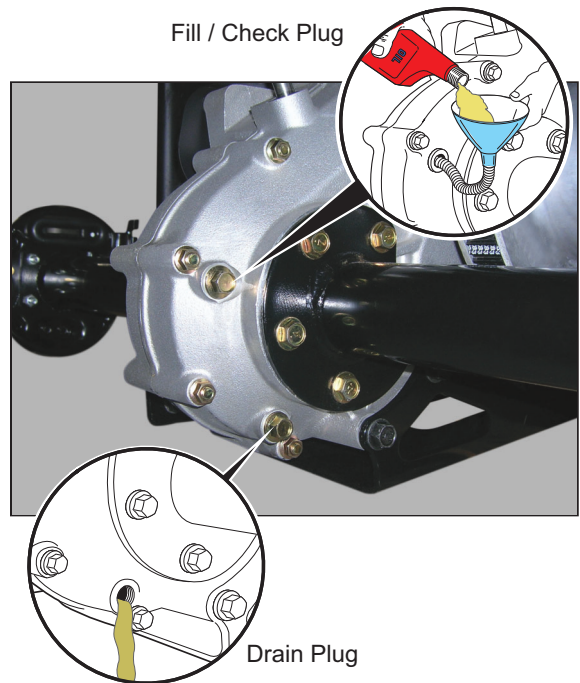

Fig. 2 Add, Check and Drain Rear Axle Lubricant
The rear axle is provided with a lubricant level check plug located on the driver side at the rear of the housing (Ref. Fig. 2). Unless leakage of rear axle lubricant is evident, an annual lubricant check is sufficient.
The neutral lock is located on the direction selector. To operate neutral lock located on the direction selector, first turn the key switch to 'OFF', place direction selector in 'R' and remove seat. Pull out (1) and rotate (2) the neutral lock pin handle so that the pointed portion of the handle is over the side of the direction selector cam (Ref. Fig. 2). Move direction selector lever towards the area between 'F' and 'R'. During that motion, the pin will snap into the hole in the direction selector mounting bracket, preventing any movement of the lever. When in this position, the direction selector remains locked in the neutral position. To activate the direction selector, pull the neutral lock pin handle out and rotate until the pointed portion of the handle fits into the hole (3) in the direction selector cam.